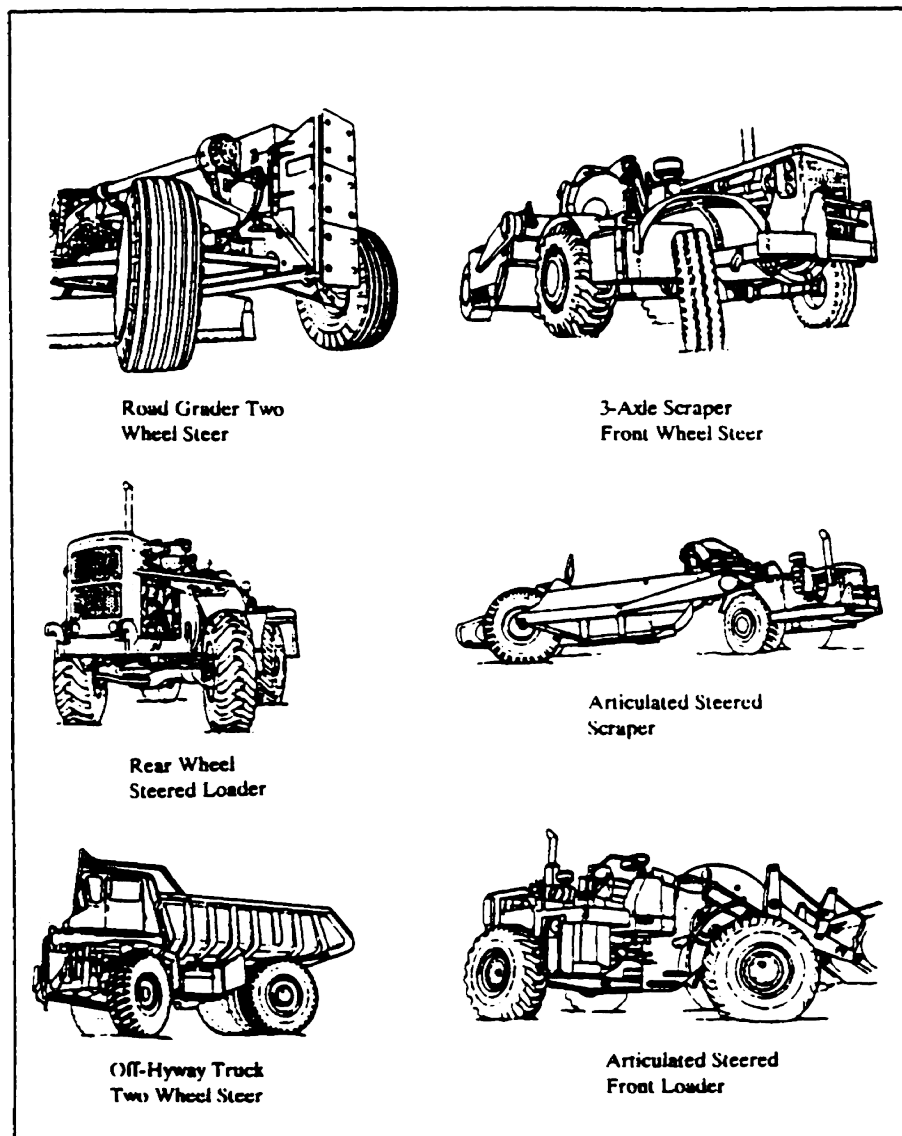

FIGURE 42. STEERING SYSTEMS ON CONSTRUCTION EQUIPMENT
While many of the basic parts of steering systems for automobiles and construction equipment are the same, there are differences (Figure 42). For example:
- Articulated steering systems on some construction equipment pivot in the middle. This two-axle design is used on some scrapers, wheeled dozers, compactors, and wheeled loaders. Figure 42 shows several kinds of steering systems on engineer construction equipment.